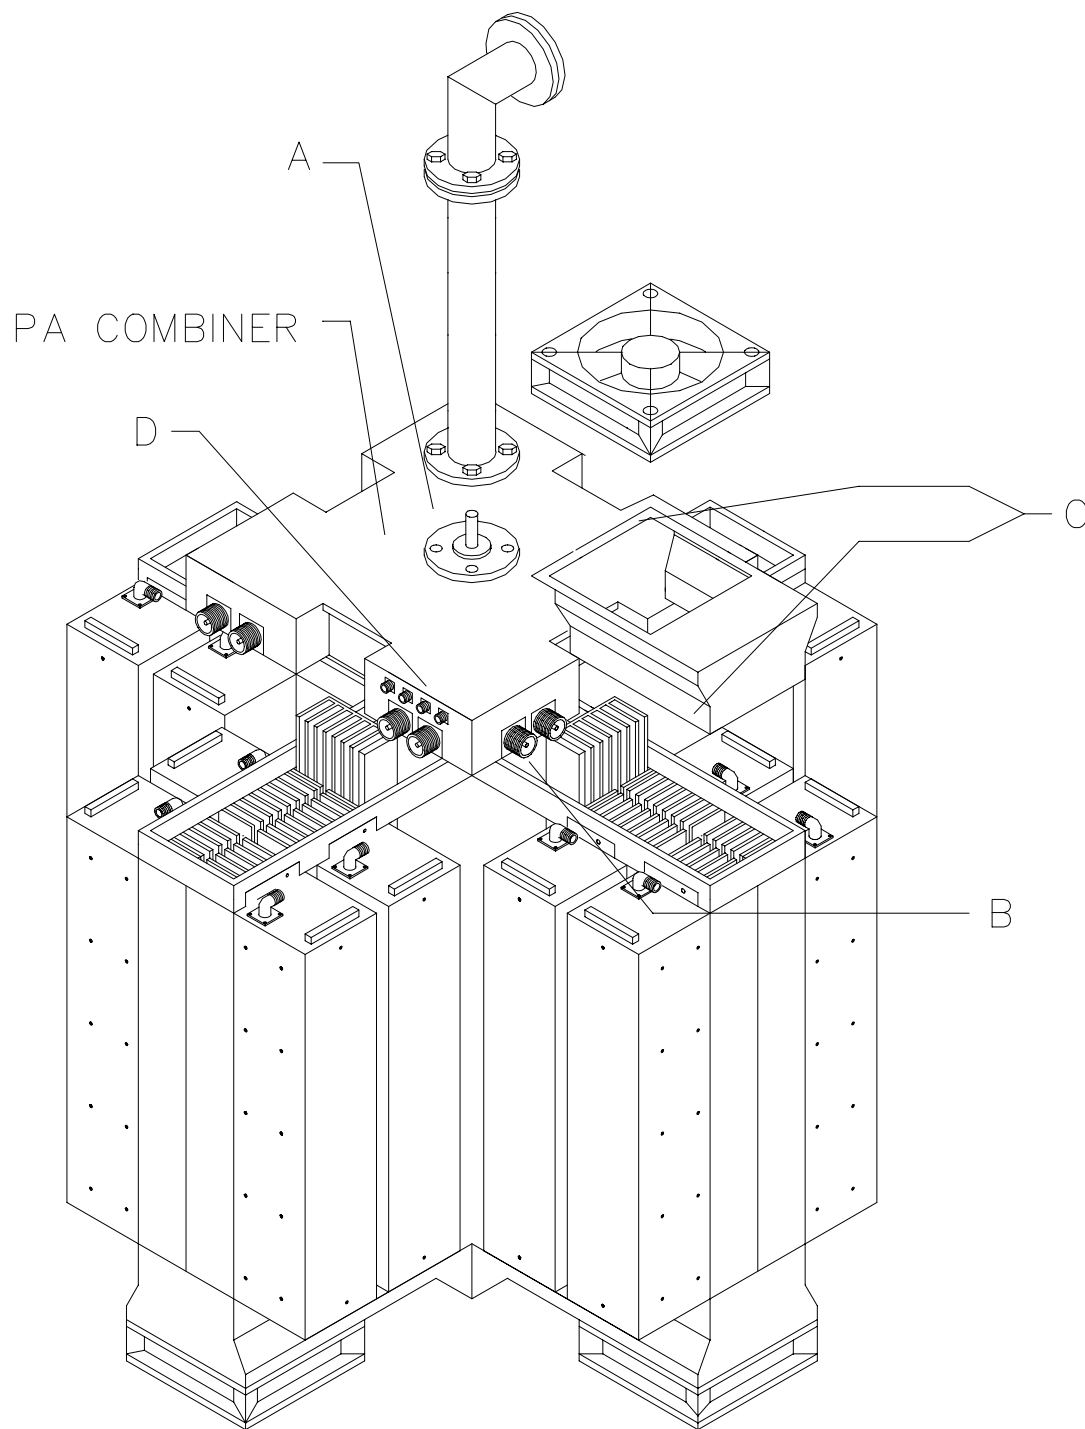

Figure 6-14 16-Way Power Combiner Removal/Replacement
3. Disconnect the brass coaxial transmission line from the Combiner point (A) in [Figure 6-14].
4. Disconnect the sixteen RF lines between the Combiner and the 1.2-KW PA Modules point (B) in [Figure 6-14].
5. Remove the four top PA Fan Assemblies point (C) in [Figure 6-14].
6. Disconnect the sixteen cables that have SMA connectors from the Combiner point (D) in [Figure 6-14].